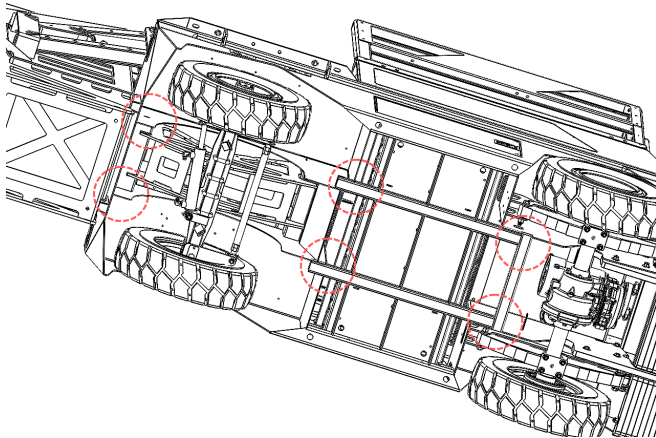

Figure 38. Weld Zones.
- Weld zones (see Figure 38 : not all welds are shown).